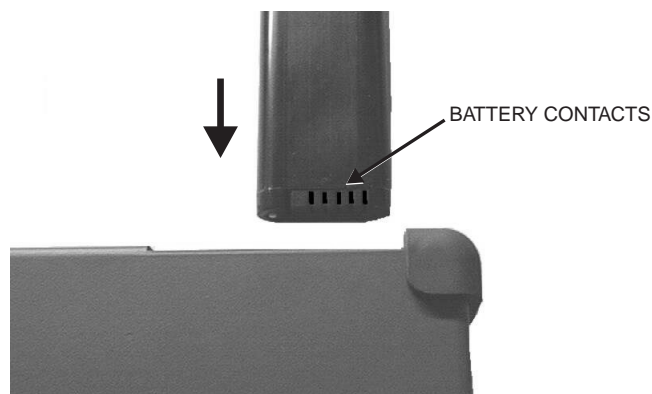

Figure 8. Battery Orientation
5. Replacement is the opposite of removal. Note the orientation of the battery contacts, and be sure to insert the new battery with the contacts facing the rear of the unit (Figure 8).